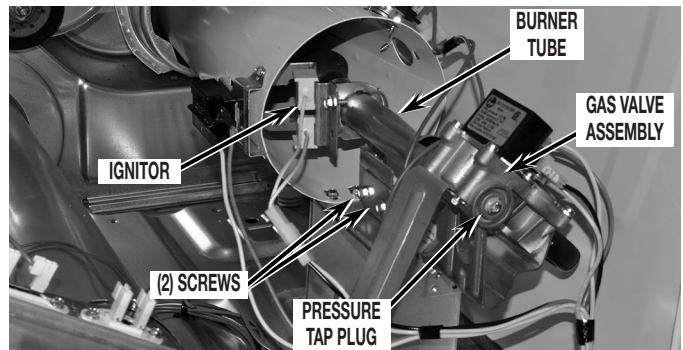

FIGURE 1A
- Remove the two (2) screws securing the burner tube to the burner base. See Figures 1A and 1B.
- Slide the burner tube back in place and, using the screws removed in Section 3, step 8, reattach burner tube to the burner assembly. Securely tighten the two (2) mounting screws. See *Figure 1A or 1B*.